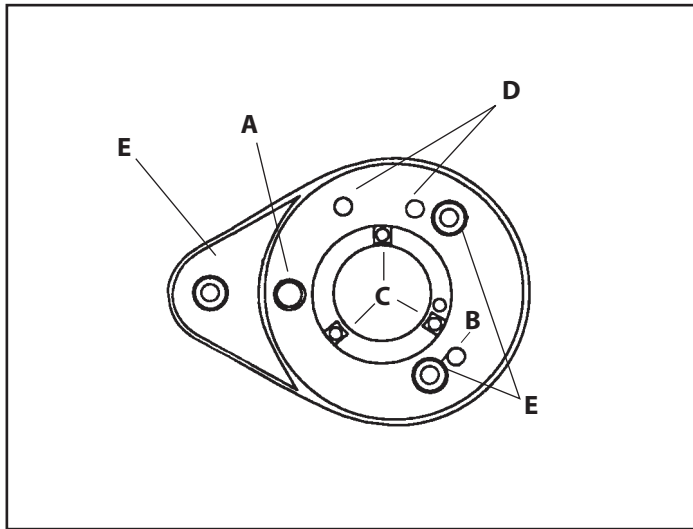

Figure 1
- A. 1966-1979 shovelhead and 1957-1979 ironhead Sportster® models – press plugs 50-8313 into holes "D" in backplate. (See Figure 1)
- B. 1980-1984 shovelhead and 1980-1985 ironhead Sportster® models – apply PTFE plumber's tape or thread lubricant to threads of crankcase breather vent elbow fitting 50-8110 and install in hole "A" in backplate. (See Figure 1)
- A. 1984-1989 big twin – press plug 50-8312 into hole "B" in backplate. Apply PTFE tape or thread lubricant to threads and screw crankcase breather vent elbow fitting 50-8110 into hole "A." (See Figure 1)
- B. 1986 and 1987 Sportster® models – press plug 50-8312 into hole "A" in backplate. Apply PTFE tape or thread lubricant to threads and screw crankcase breather vent elbow fitting, 50-8110 into hole "B." (See Figure 1)